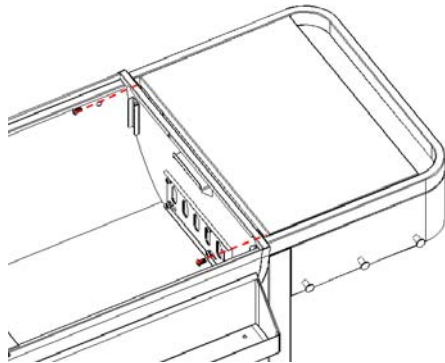

Fig. 18B
Attach the upper part of the Side Shelf Assembly to the cabinet using (2) M6x12 bolts as shown as Fig. 18B.